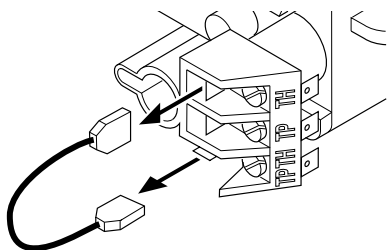

Figure 40 - Disconnecting TH to TPTH Wire
2. Disconnect the wire that runs from TH to TPTH from the valve as shown in Figure 40.
5. Remove the wire that runs from TH to TPTH from the valve (see Figure 40, page 21).